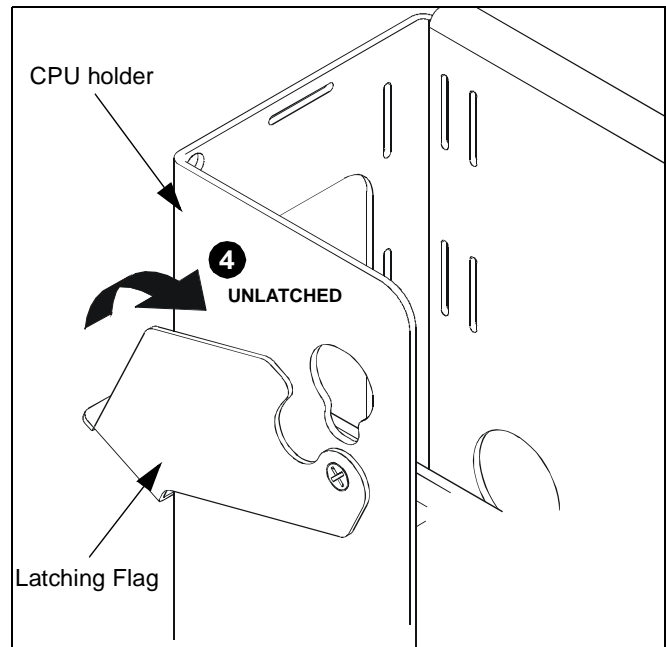

Figure 6:
4. Secure display by rotating latching flag to the LATCHED position (See Figure 6). If latching flag does not fully engage, ensure mounting buttons are fully seated in teardrop slots.